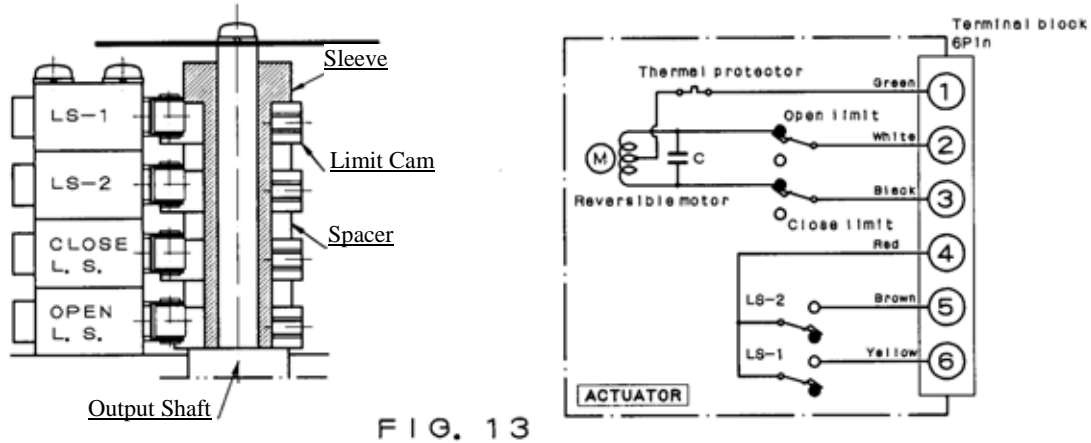

FIG. 13
* Refer to Fig.13 for wiring diagram.